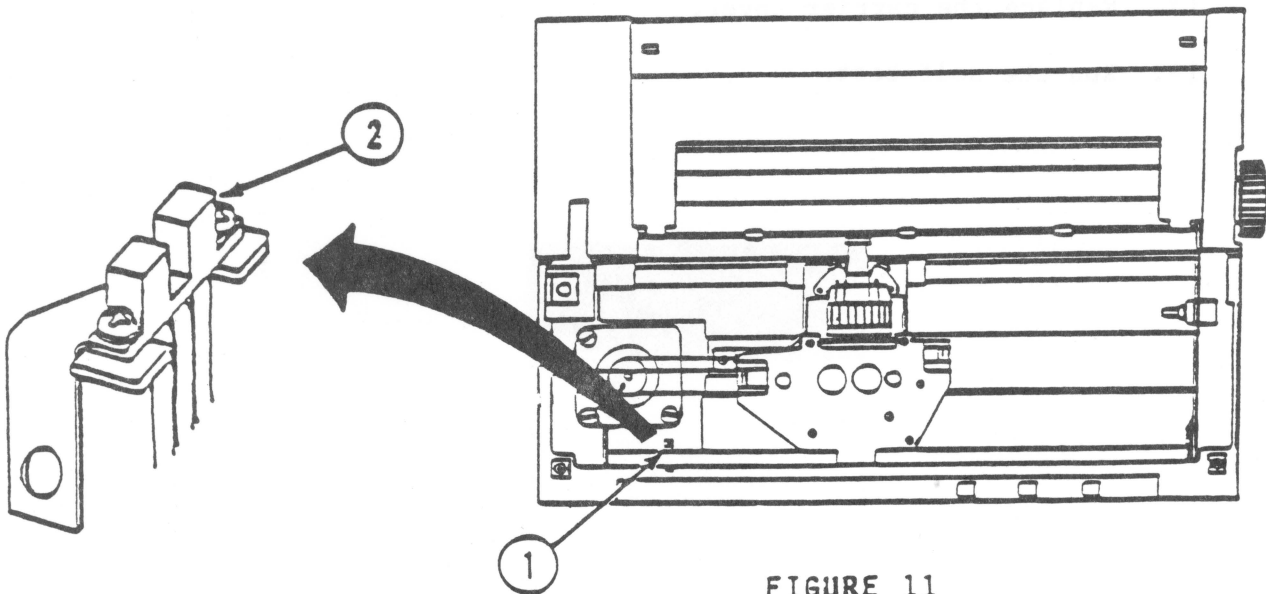

FIGURE 11
6. Find the detector plate. It is on the left front side of the printer, hidden just below the guide rail. (See Figure 11, #1.)
7. Using a brush, remove any paper dust. (See Figure 11, #2.)